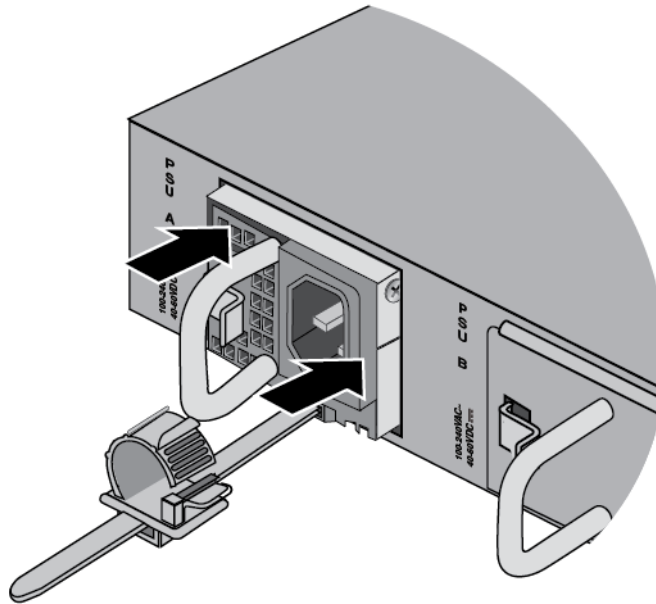

Figure 57. Seating the Power Supply on the Internal Connector
4. When the power supply makes contact with the connector inside the switch, gently press on its faceplate to seat it on the connector. Refer to Figure 57.